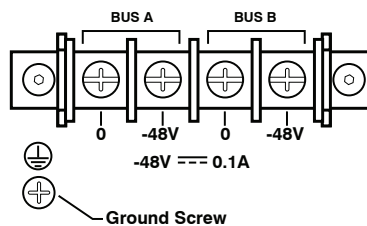

Figure 4.1: Terminal Block Assembly (DC Units Only)
- 48 VDC powered models include a terminal block assembly (see Figure 4.1) in place of the power inlet. For more information, please refer to Section 4.1.
- ② **Power On/Off Switch** Master Power Switch.